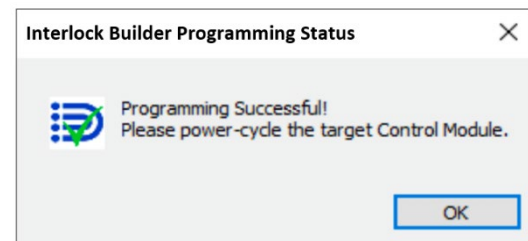

Figure 81 - Programming Successful
- Interlock Builder displays a "Programming Successful!" dialog (Figure 81 - Programming Successful)